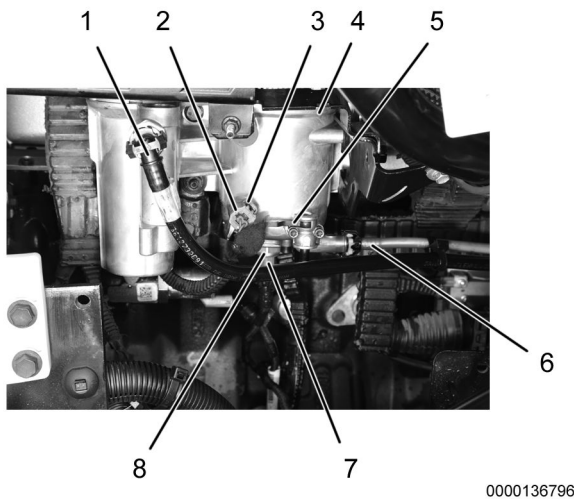

Figure 3. Fuel Filter Assembly Disconnects.
6. Disconnect engine harness connector (Figure 3, Item 7) from Fuel Delivery Pressure (FDP) sensor (Figure 3, Item 8).
7. Disconnect engine harness connector (Figure 3, Item 2) from Water In Fuel (WIF) sensor (Figure 3, Item 3).
8. Open water drain valve (Figure 3, Item 5) and drain water / fuel from fuel filter assembly (Figure 3, Item 4) into container clearly marked DIESEL FUEL.
9. Close water drain valve (Figure 3, Item 5) when all water / fuel is drained. Dispose of water and diesel fuel mixture according to applicable regulations.
10. Disconnect fuel supply line (Figure 3, Item 1) from fuel filter assembly (Figure 3, Item 4) and drain fuel into container clearly marked DIESEL FUEL. Dispose of diesel fuel according to applicable regulations.
11. Disconnect fuel return line (Figure 3, Item 6) from fuel filter assembly (Figure 3, Item 4) and drain fuel into container clearly marked DIESEL FUEL. Dispose of diesel fuel according to applicable regulations.